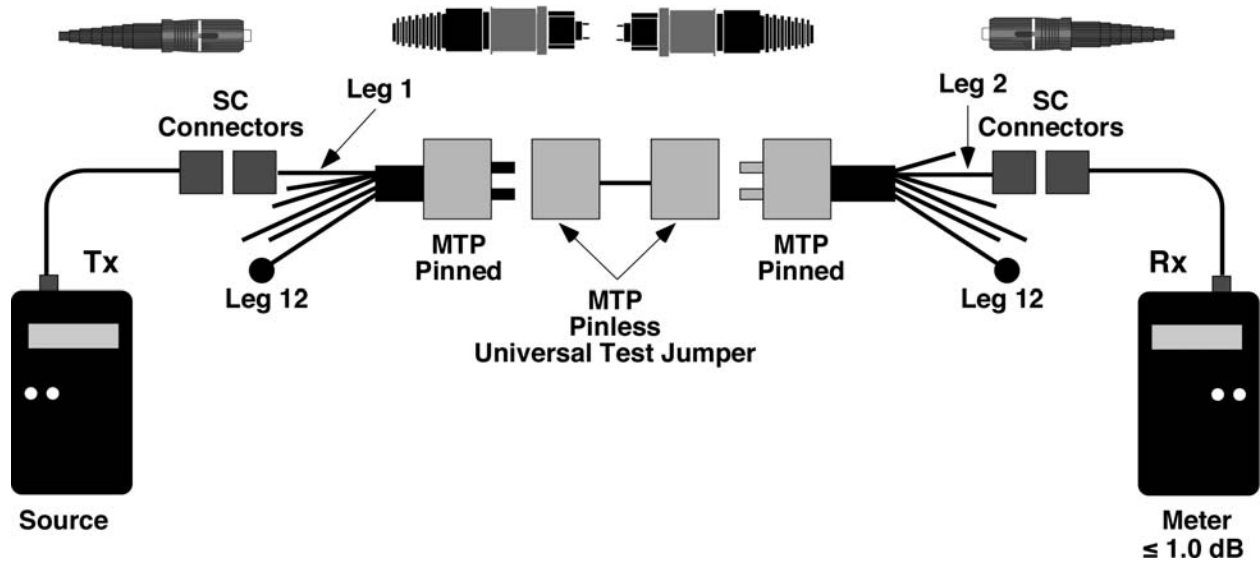

Figure 4: Set-Up and Verification of the Test Jumpers
- b) Connect the leg number 1 of a 12-fiber SC to MTP PINNED harness to the SC jumper at the source and the leg number 2 of a second 12-fiber SC to MTP PINNED harness to the SC jumper at the meter, as shown in Figure 4 at the end of this document.
- a) Disconnect leg number 1 of the SC to MTP pinned jumper and the fiber number 2 of the second SC to MTP pinned harness (as shown in figure 4) and continue testing the rest of the fibers in the order shown in table 1 for Universal Polarity Management.